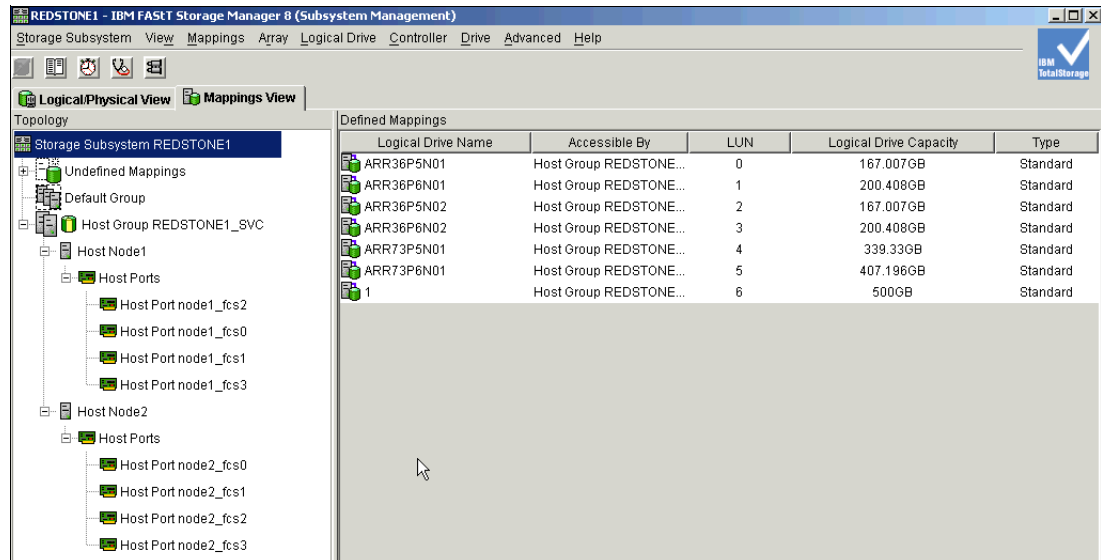

Figure 3-20 FAST mappings view
2. Check the supported firmware levels and configurations before you connect to the SVC. See Figure 3-20.